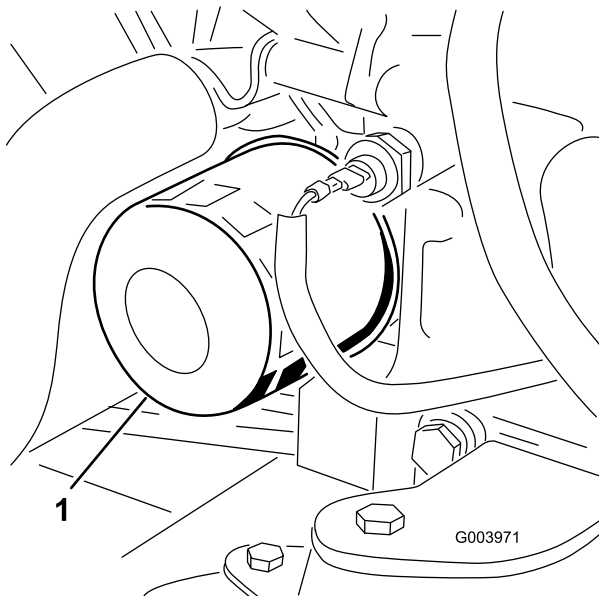

Figure 58
3. Remove the oil filter (Figure 58).